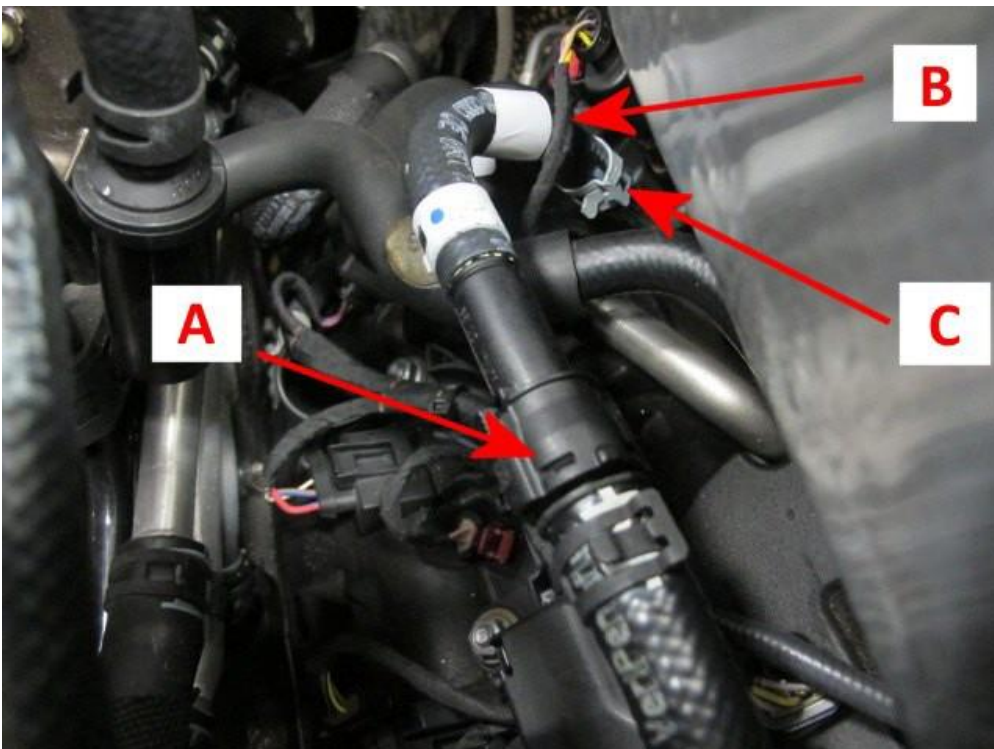

Figure 2
- Referring to Figure 2 (Point A) Disconnect the "quick connector" and detach the fuel hose - Refer to Repair manual Rep. Gr 20 "Special instructions for fuel system quick connectors" carry out all instructions as per Repair manual instructions